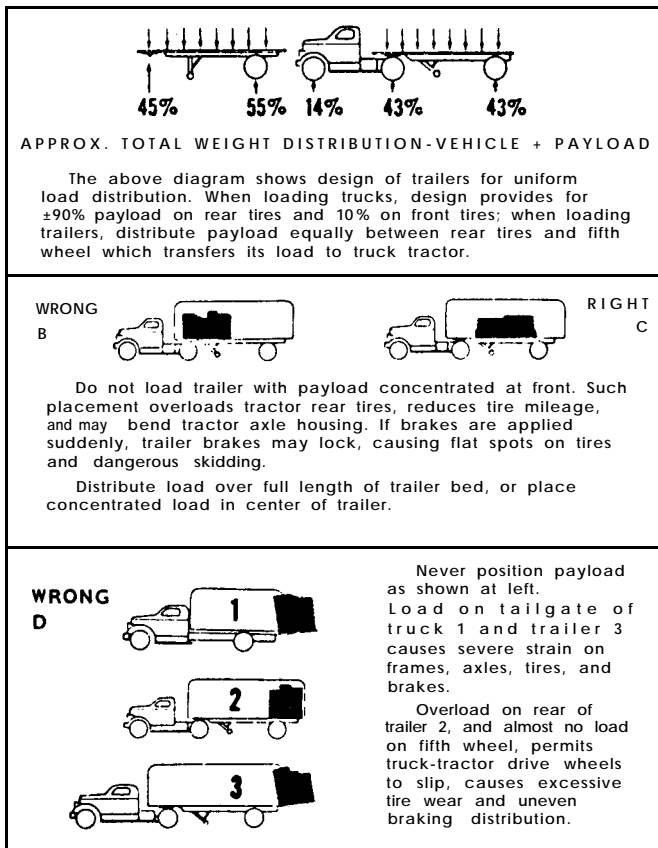

FIGURE 5
a. **Determining Center of Load.** To properly load a truck or semitrailer unit, determine the center of payload. In a truck, the center of payload is the center of the body, or at the point midway between the rear of the driver's cab and the tailgate. In a truck-tractor semitrailer unit, the center of payload is roughly the center of the semitrailer body, because the front wheels of the tractor seldom carry any of the payload. Whenever possible, distribute the load so that each axle bears an equal proportion of the load within the given weight capacity of the vehicle. Examples of approximate distribution of total weight are shown in Figure 5. No vehicle shall be loaded over its rated capacity without direct authorization.